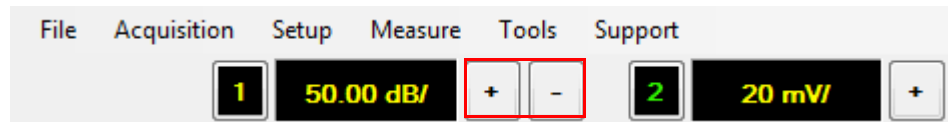

Figure 2-14 Vertical scale adjustment on the graphical interface
- 8 You can also adjust the vertical scale using + and - as shown in Figure 2-14.